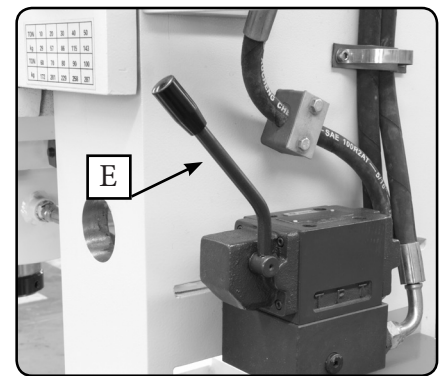

Fig. 8
- E. Operating Lever - Moves the ram up or down (Fig. 8)